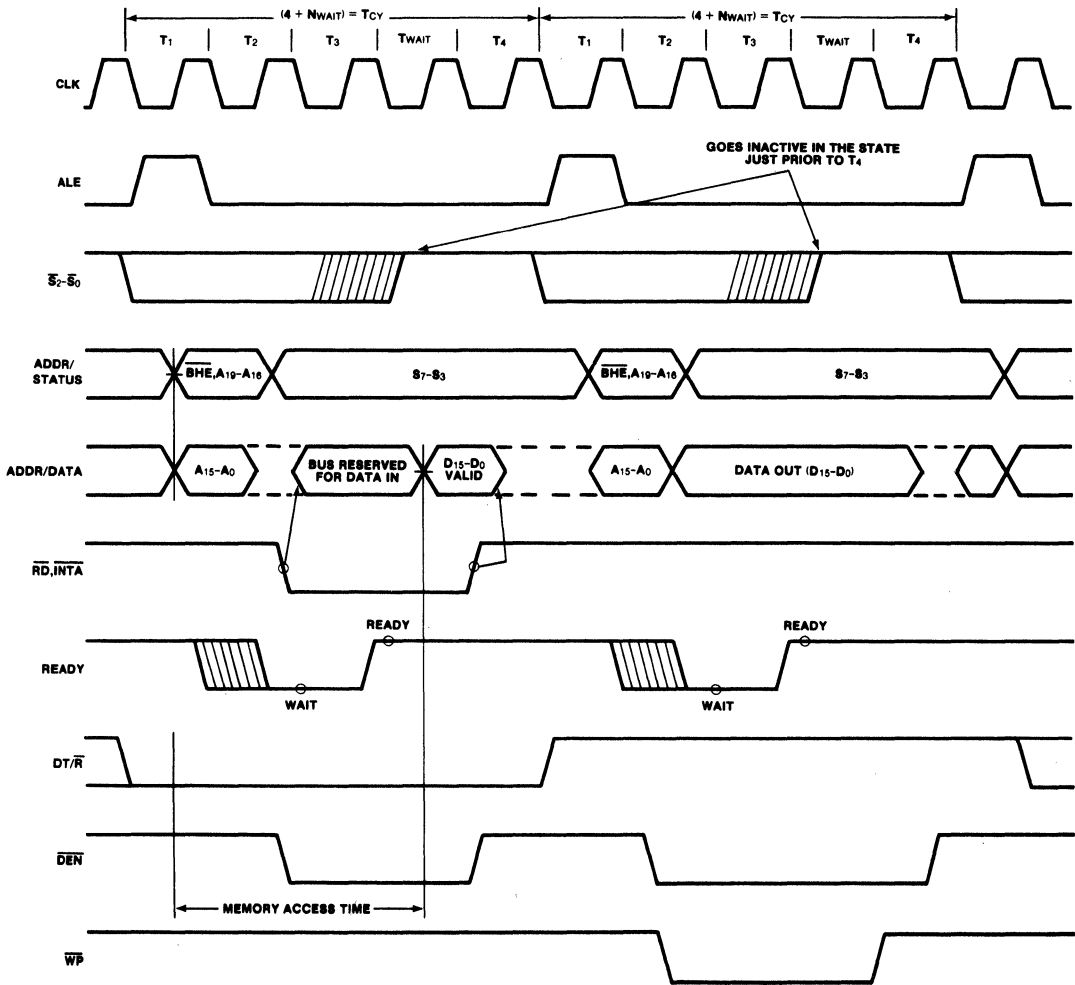
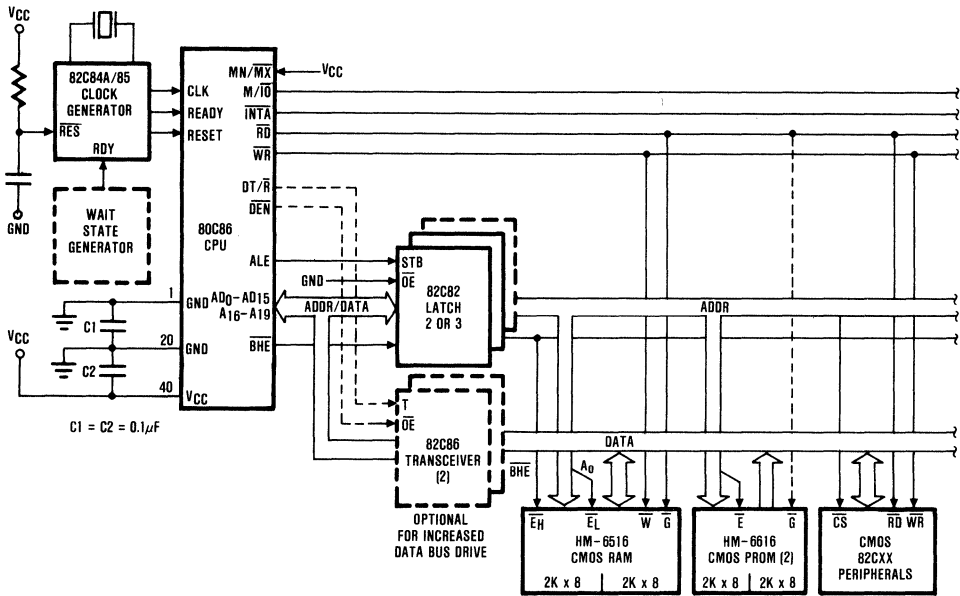

FIGURE 3. BASIC SYSTEM TIMING
FIGURE 6A. MINIMUM MODE 80C86 TYPICAL CONFIGURATION
The demultiplexed mode requires two 82C82 latches (for 64K addressability) or three 82C82 latches (for a full megabyte of addressing). An 82C86 or 82C87 transceiver can also be used if data bus buffering is required. (See Figure 6a.) The 80C86 provides DEN and DT/R to control the transceiver, and ALE to latch the addresses. This configuration of the minimum mode provides the standard demultiplexed bus structure with heavy bus buffering and relaxed bus timing requirements.
Each processor bus cycle consists of at least four CLK cycles. These are referred to as  $T_1$ ,  $T_2$ ,  $T_3$  and  $T_4$  (see Figure 3). The address is emitted from the processor during  $T_1$  and data transfer occurs on the bus during  $T_3$  and  $T_4$ .  $T_2$  is used primarily for changing the direction of the bus during read operations. In the event that a "NOT READY" indication is given by the addressed device, "Wait" states (TW) are inserted between  $T_3$  and  $T_4$ . Each inserted wait state is the same duration as a CLK cycle. Periods can occur between 80C86 driven bus cycles. These are referred to as "idle" states ( $T_I$ ) or inactive CLK cycles. The processor uses these cycles for internal housekeeping and processing.
Typical system configurations for the processor operating in minimum mode and in maximum mode are shown in Figures 6A and 6B, respectively. In minimum mode, the MN/MX pin is strapped to VCC and the processor emits bus control signals (e.g.  $\overline{RD}$ ,  $\overline{WR}$ , etc.) directly. In maximum mode, the MN/MX pin is strapped to GND and the processor emits coded status information which the 82C88 bus controller used to generate MULTIBUS™ compatible bus control signals. Figure 3 shows the signal timing relationships.